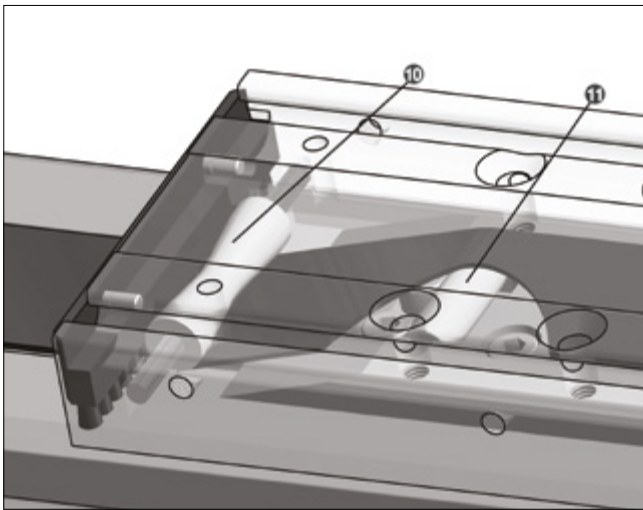

Figure 4.15 __ Cover strip deflection
4. Make sure that the guiding roller **10** in the table unit and the pressure roller **11** in the slider plate can be easily moved and are free from damages, if applicable clean or replace them (Figure 4.15).